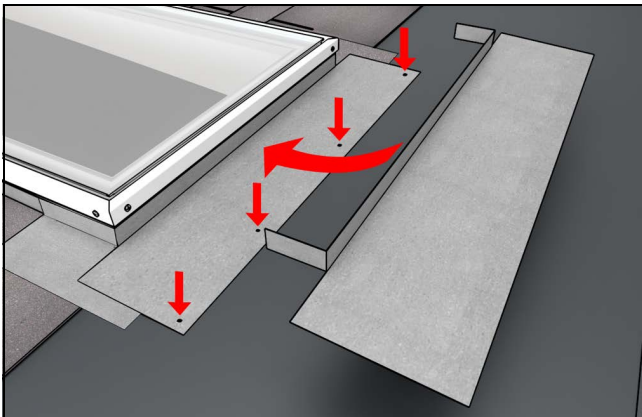

Figure 20
17. Head jamb saddle installed with tabs bent around jamb step flashing. See Figure 20.